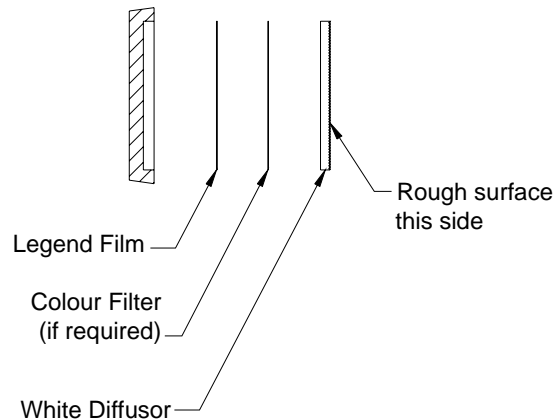

Figure 2-7 Backlit Window Order of Assembly
1. Assemble each window as shown in Figure 2-7 Backlit Window Order of Assembly.